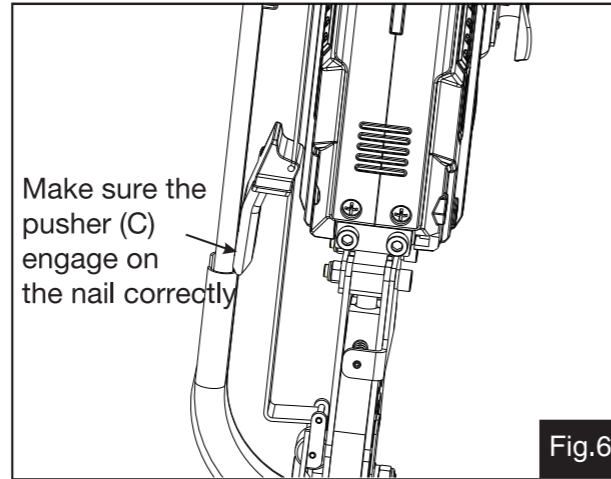

Fig.6
4. Once the pusher hit the back of magazine rail, allow the pusher (C) to slide forward and engage the nails, pushing the nails to the nose of the tool (Fig.6)